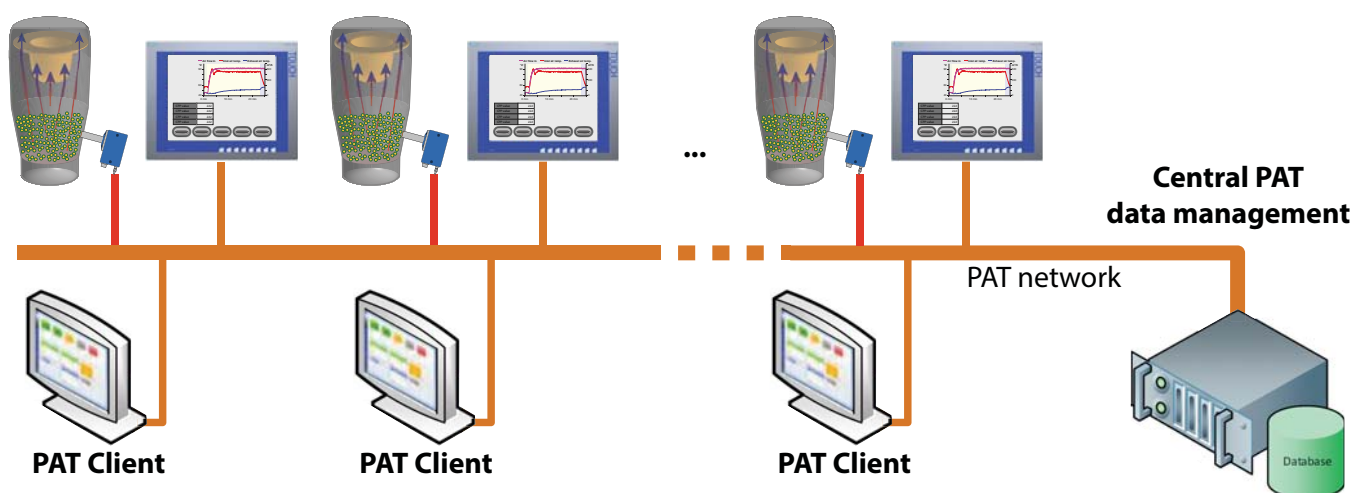

Figure 5: Centralized PAT data management
3. Finally, an entire PAT data management infrastructure can be established, serving multiple process machines and analyzers, see **Figure 5**. Especially for companies intending to PAT-enable various process machines and allow for a centralized management, this option is highly recommended. The centralized PAT data management can be used to generate extensive reports, track CQAs along the processing chain and harmonize the technologies.